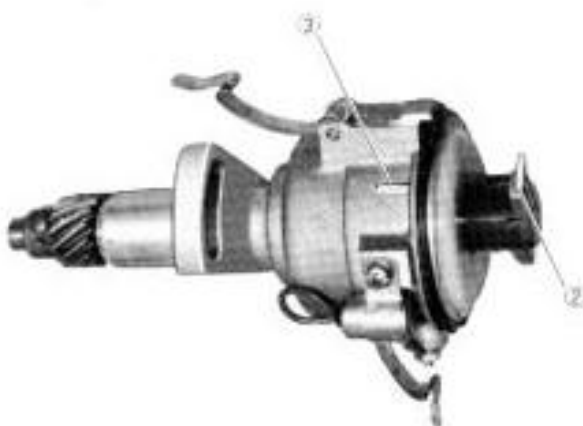

Fig. 3-145
The distributor takes its mounted position correctly only when it is inserted into the gear case under a specific condition. The condition is this: Turn over crankshaft to locate the piston at B.T.D.C. 10° (No.1 Piston being compression stroke), and insert the distributor into the case, with end face ② of distributor rotor lined up with embossed mark ③ of distributor housing, as shown in Fig. 3-145.